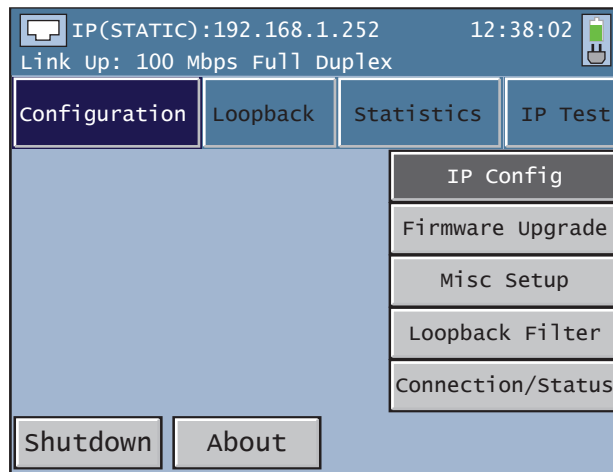

Figure 4 Main Menu Screen
5. At the end of the process, the main menu screen is displayed, as in Figure 4:
- Current IP address mode (STATIC or DHCP) and the IP address that is assigned to the GigE Responder after start up. In Figure 4; IP(STATIC):192.168.1.252.
- Current time of day using a 24 hour format. In Figure 4; 12:38:02.
- Link status, link speed, and link mode. In Figure 4 it is; Link up: 100 Mbps Full Duplex.
As seen in Figure 4, the Configuration menu screen contains the following:
Dynamic IP mode automatically acquires the IP address from a DHCP server when the GigE Responder is started up. The screen shown on the left in Figure 4 reports the following information given out by the DHCP server:
Use this mode when a DHCP server is not available on the network to be tested. When Static is selected, the screen shown on the right in Figure 4 is displayed. In it the addresses shown must be filled in by you.